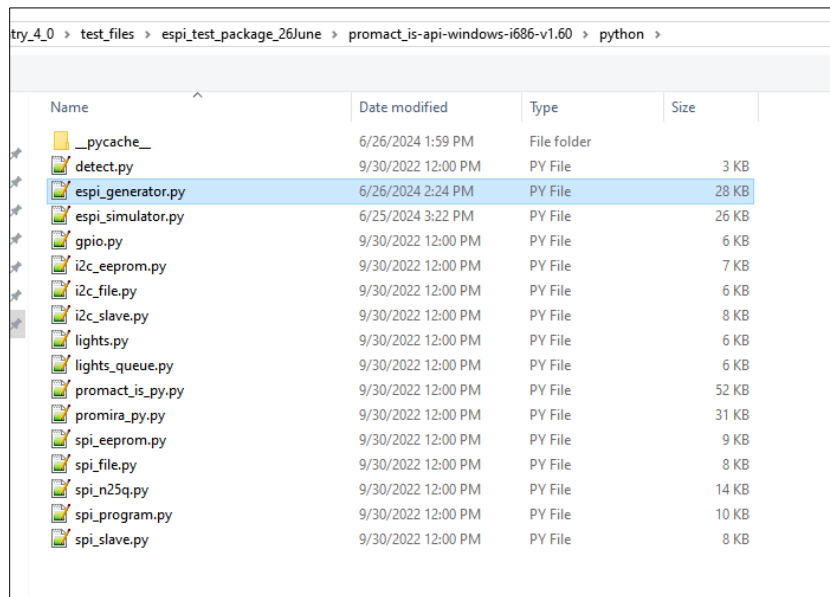

Figure 5.8. API for eSPI Transactions
4. Open IDLE Shell. Then, open the `espi_generator.py` file (Figure 5.8). This is the main file for running the eSPI transactions.